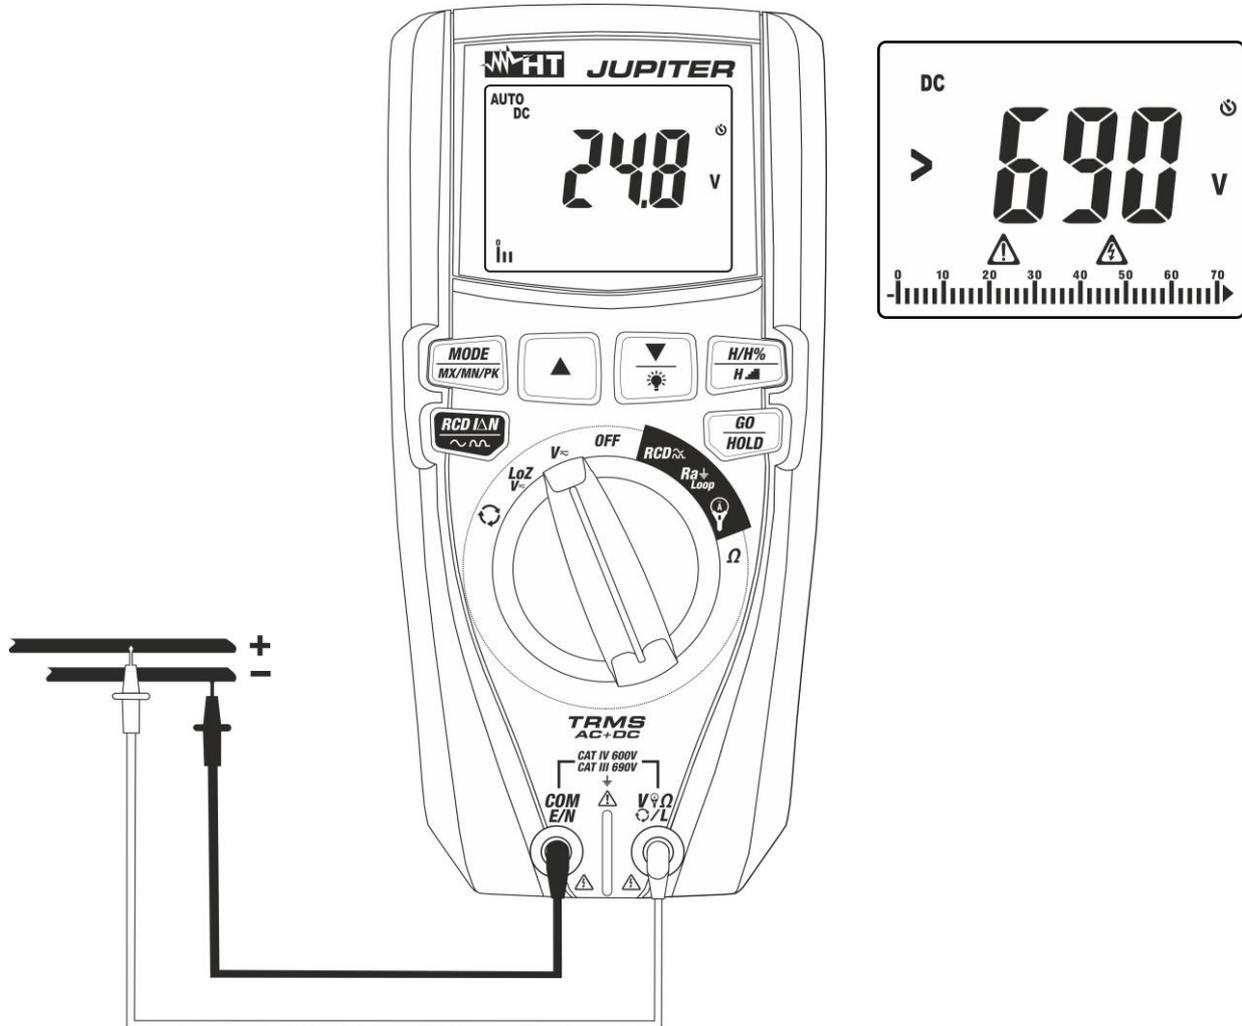
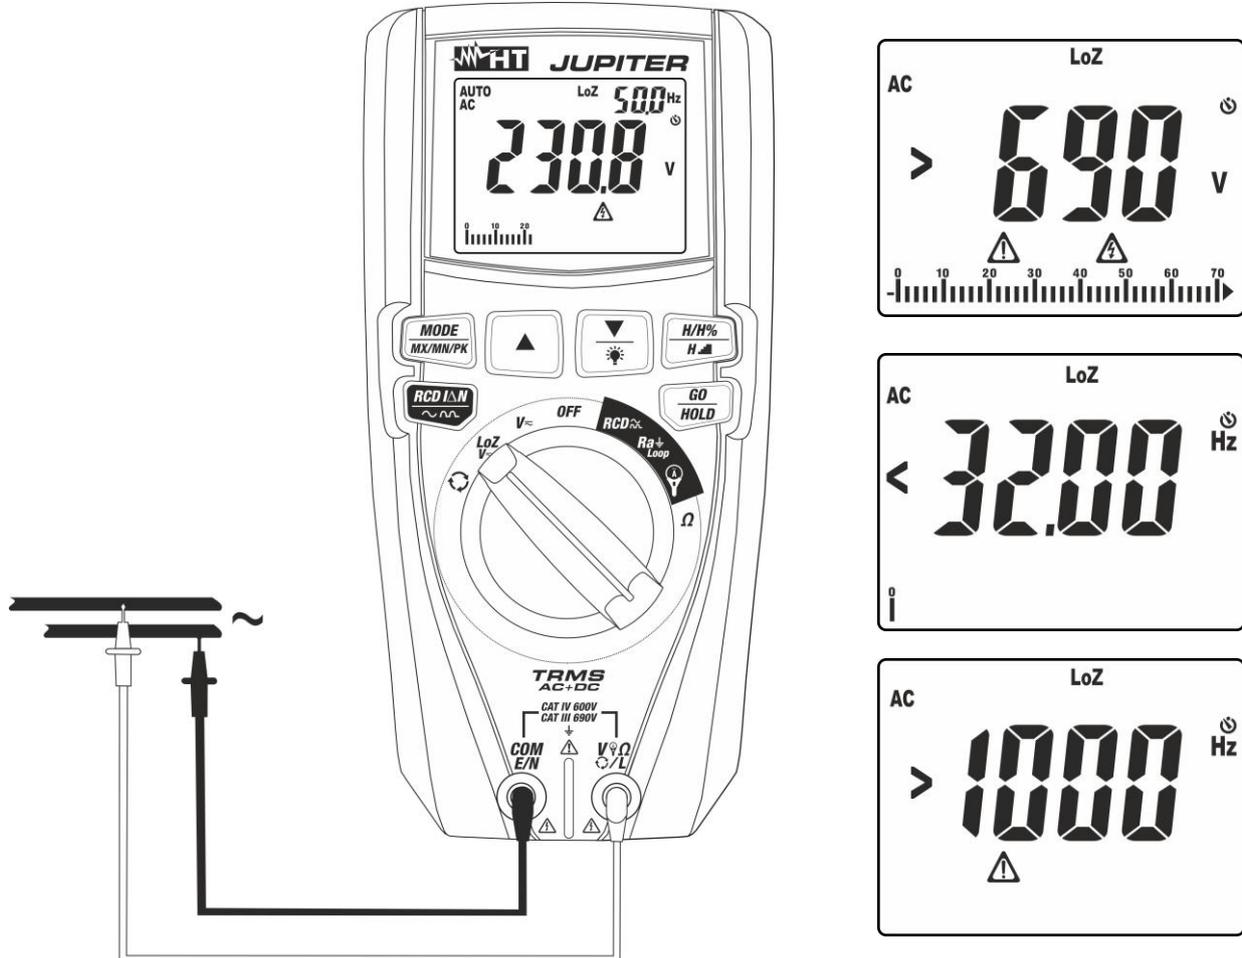

Fig. 8: Use of the instrument for DC voltage measurement
Fig. 10: Use of the instrument for AC/DC voltage measurement with LoZ function
3. Position the red lead and the black lead respectively in the spots with positive and negative potential of the circuit to be measured (see Fig. 8). The display shows the value of voltage.
4. If the display shows the message "**>690V**" (see Fig. 8), the maximum measurable value has been reached.
5. When symbol "-" appears on the instrument's display, it means that voltage has the opposite direction with respect to the connection in Fig. 8.
4. Position the red lead and the black lead respectively in the positions of the circuit to be tested (see Fig. 10) for AC voltage measurement or in the positions with a positive or negative potential of the circuit to be tested (see Fig. 8) for DC voltage measurement. The display shows the value of voltage. On the top of the display on the right side, the value of voltage frequency is displayed. Press key **MODE/MX/MN/PK** to display the value of frequency with a higher resolution.
5. If the display shows the messages “<32Hz” or “>1000Hz” (see Fig. 10), the value of frequency is out of the measuring range **32Hz ÷ 1000Hz**.
6. When symbol “-” appears on the instrument’s display, it means that voltage has the opposite direction with respect to the connection in Fig. 8.